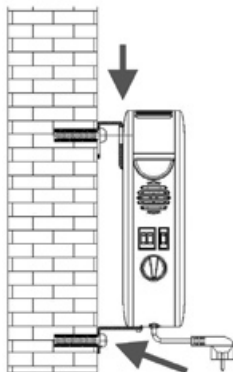

Fig. 7
8. Hang the appliance on the suspension hooks installed on the wall and screw the spacers into the bottom holes (Fig. 7).